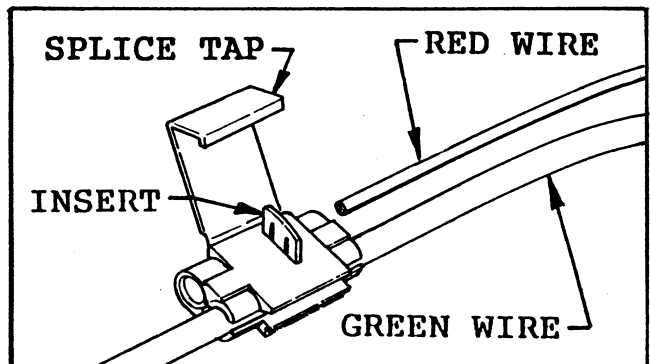

FIG. 8
- Place the GREEN wire of the Vehicle's wiring harness into the splice tap (in parts bag) as shown in FIG. 8.